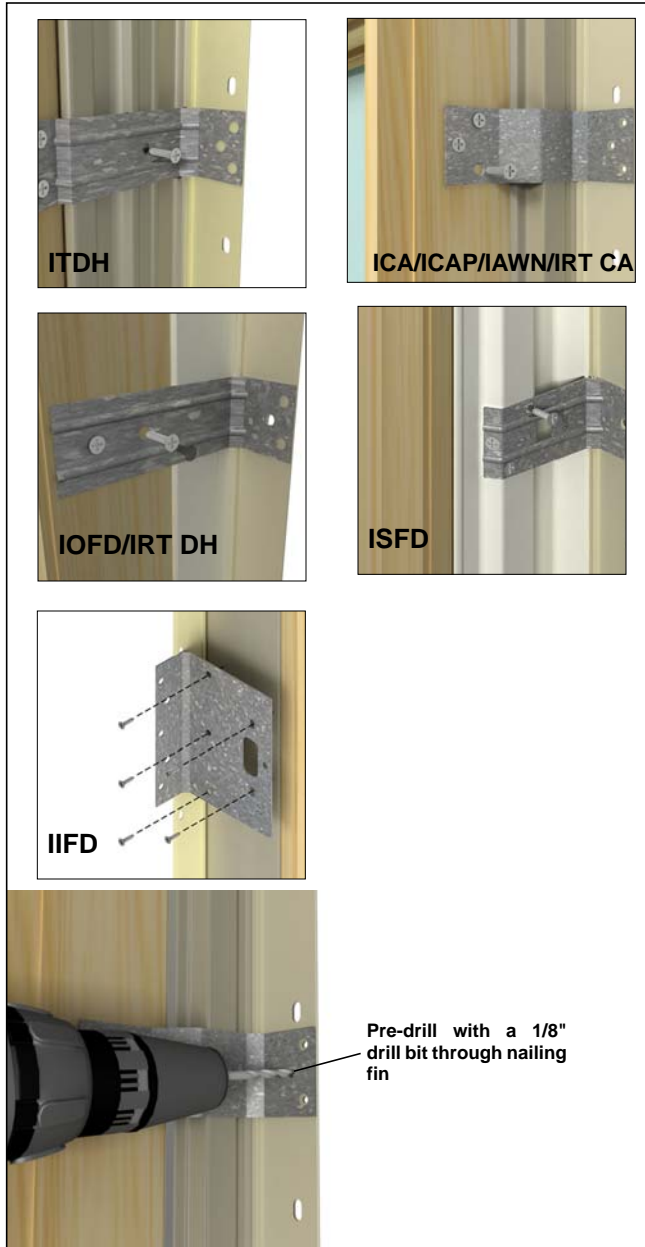

Figure 3
- On Round Top Double Hung units, attach 5/8" X 3 1/2" filler blocks to the sill prior to attachment of installation clips. Attach the blocks by first placing a 5/16" (8) bead of construction adhesive to the block. Fasten the blocks to the sill using #8 x1 1/4" screws. When using installation and mull clips with nailing fin, use the screw holes in the clip as a guide and drill through the nailing fin with a 1/8" (3) drill bit. This will give you the location of the screw holes when you fasten the unit to the rough opening. See figure 3.